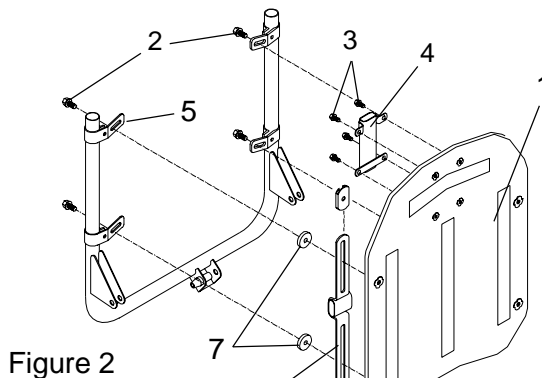

Figure 2
The backrest system consists of a back frame with straps and a specially adapted back cushion that is attached using Velcro strips. It can be fitted to back frames with adjustable back plate brackets; see 5, Figure 2.
1. First loosen the head support fastening from the back plate (1) by unscrewing and removing the screws (3), see Figure 2. The wire control unit can remain on the head support fastening, but make sure that the wires do not become damaged.
2. Remove the back plate by unscrewing and removing the screws (2).
3. NB! The Flexi back frame is designed to be fitted onto back frames with screwed-on back plate brackets; see 5, Figure 2.